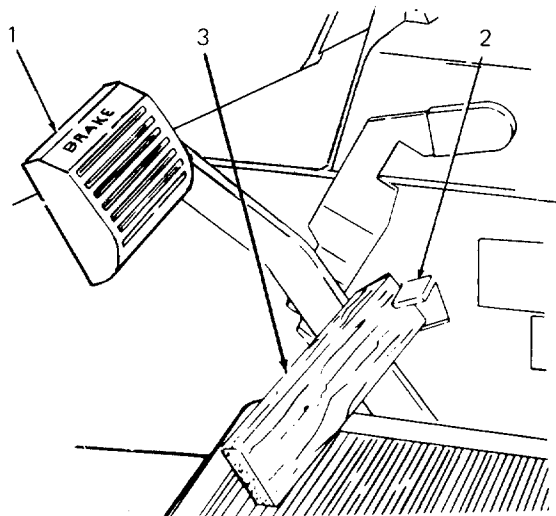

Figure 29
1. To check brake adjustment, place a 1 inch thick wood block between the single brake pedal and the brake lock tab (see Figure 29).
2. Place a 1 inch thick wood block between the single brake pedal and the brake lock tab (see Figure 29).